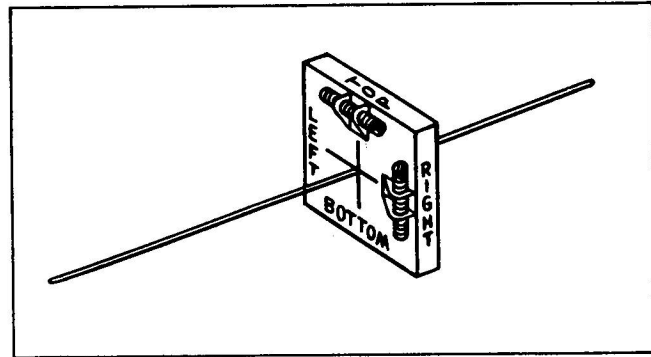

Figure 4-11 Theoretical Quartering of Object to be Balanced Statically
(1) Static balance may be achieved by shifting the weight from the heavier side of the object to the lighter side. When shifting weights, a definite procedure should be followed to avoid confusion and repetition of operations. This procedure consists of two basic operations: first, the balancing of the right side against the left, and secondly, the balancing of the top side against the bottom. For convenience in distinguishing the right side from the left and the top side from the bottom, imagine that the object is divided by two lines, perpendicular to each other, intersecting at the pivot axis. (See figure 4-11.)